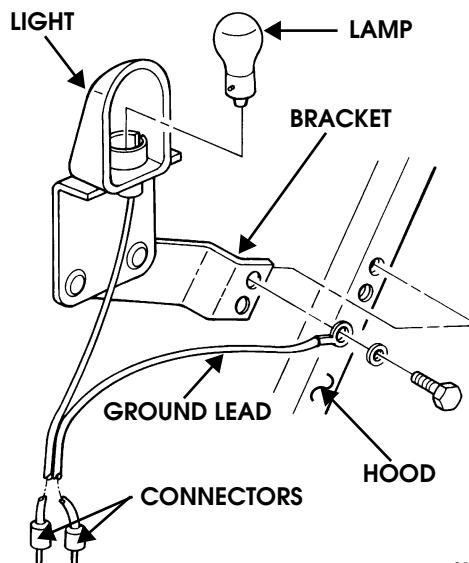

Figure 10-169: Underhood Light Replacement
1. Disconnect two connectors from wiring harness (Figure 10-169).
1. Install lamp in light (Figure 10-169).